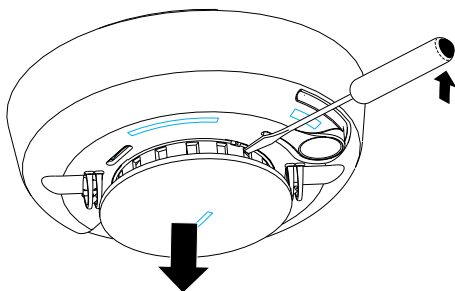

Figure 5 - Removing Detector Cap
4. Slide a flat-blade screwdriver in the slot on the detector cap and gently push the handle down to pry the cap up and off. See Figure 5.